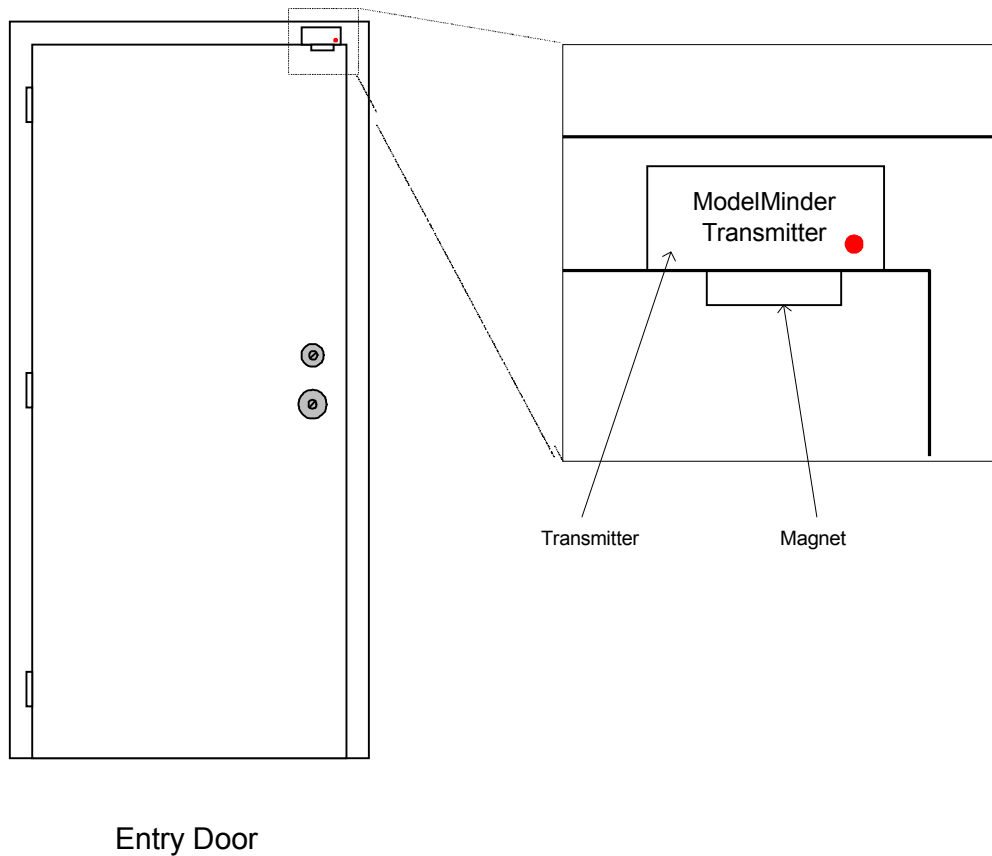

Figure 5.3: Wireless Door Sensor Transmitter
- i. Using double-sided tape (included), install transmitter module (Linear DXT-31) on entry door and magnetic sensor on door trim. *[Note: For more detailed information about installation, follow instructions included with door transmitter]* (**Figure 5.3**)